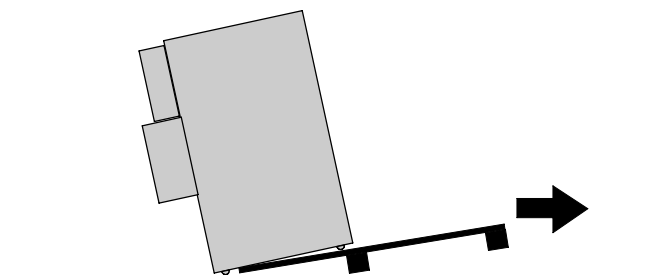

Figure 5. Removing the Pallet
8. With the cabinet supported, slowly pull the pallet away from the cabinet (see Figure 5).